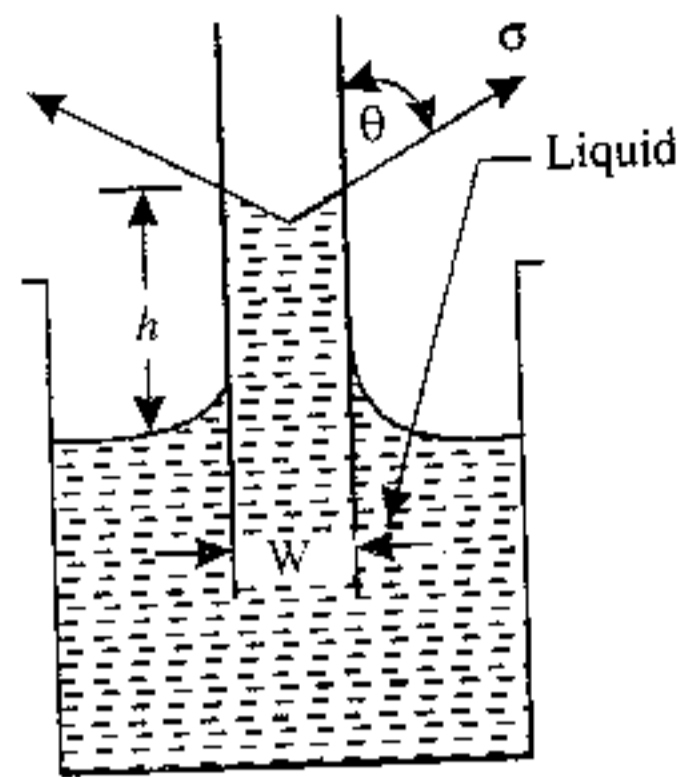

Fig. 1.26
**Solution.** Refer Fig. 1.26. Consider two vertical parallel plates immersed in a liquid whose weight density is  $w$ .